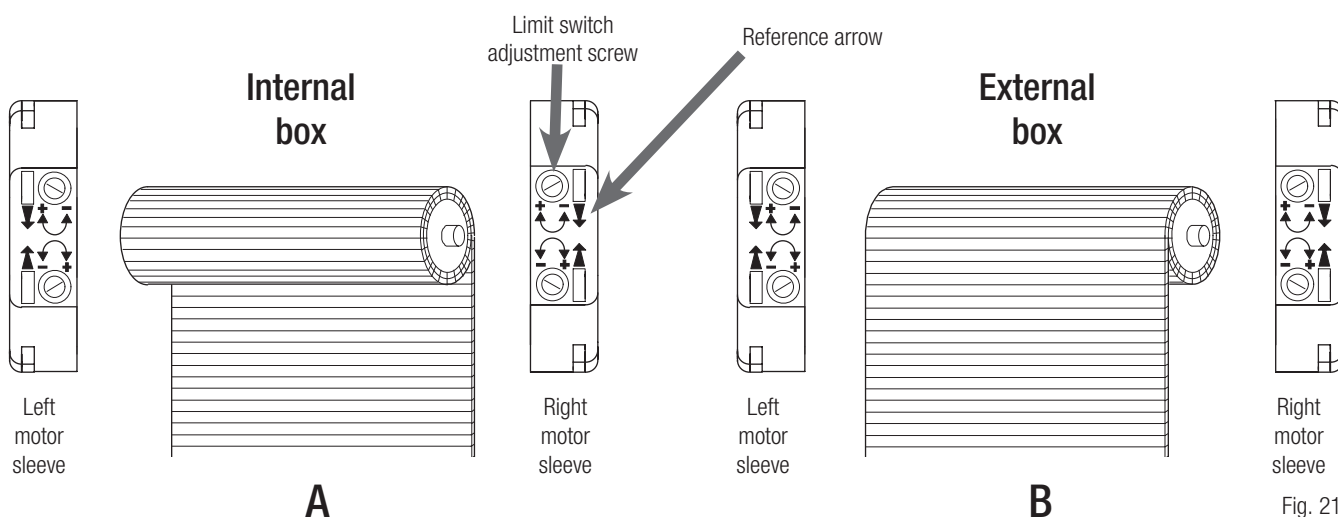

Fig. 21
9.2 CONFIGURATION WITH INTERNAL BOX (Fig. 21 ref. A)
9.3 CONFIGURATION WITH EXTERNAL BOX (Fig. 21 ref. B)